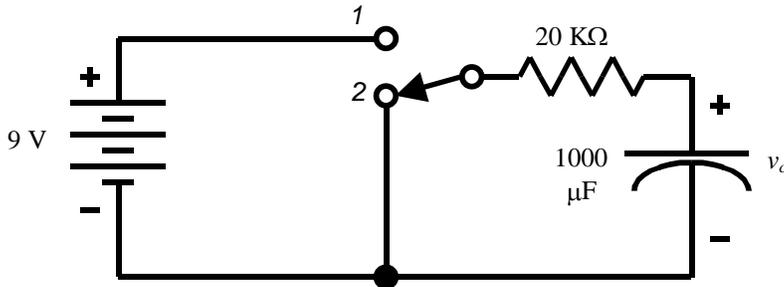

Figure P1-1 RC switched circuit.
Construct the circuit of Figure P1-1.
1. Using the schematic editor of LTspice, set up the circuit shown in figure P1-1 assuming the switch is turned to position 1. Run transient analysis simulations for 300 seconds. Plot the capacitor voltage and the current in the circuit (both plots in the same graph). From your graph, determine the value of the time constant of the RC circuit and compare it with the value obtained by calculations and measurements in procedure 1.